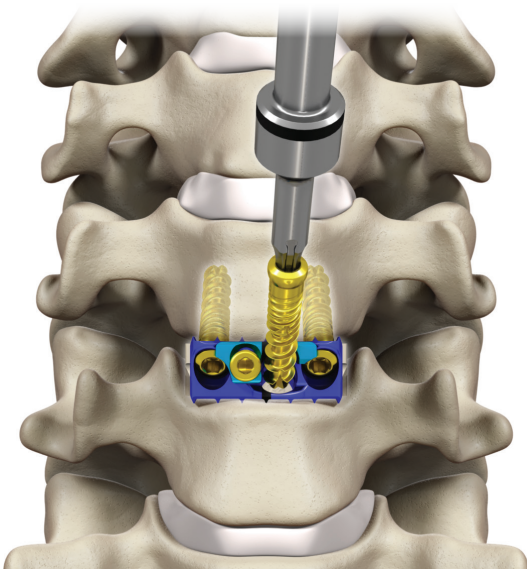

Figure 60
- Remove the awl/drill and guide. Load the desired screw onto the 2.0 mm hex driver. Insert the screw through the midline screw hole, advancing the screw until the screw head contacts the plate to provisionally stabilize the implant. Ensure the driver is on axis to the prepared screw trajectory during screw insertion and final tightening (Figure 60).